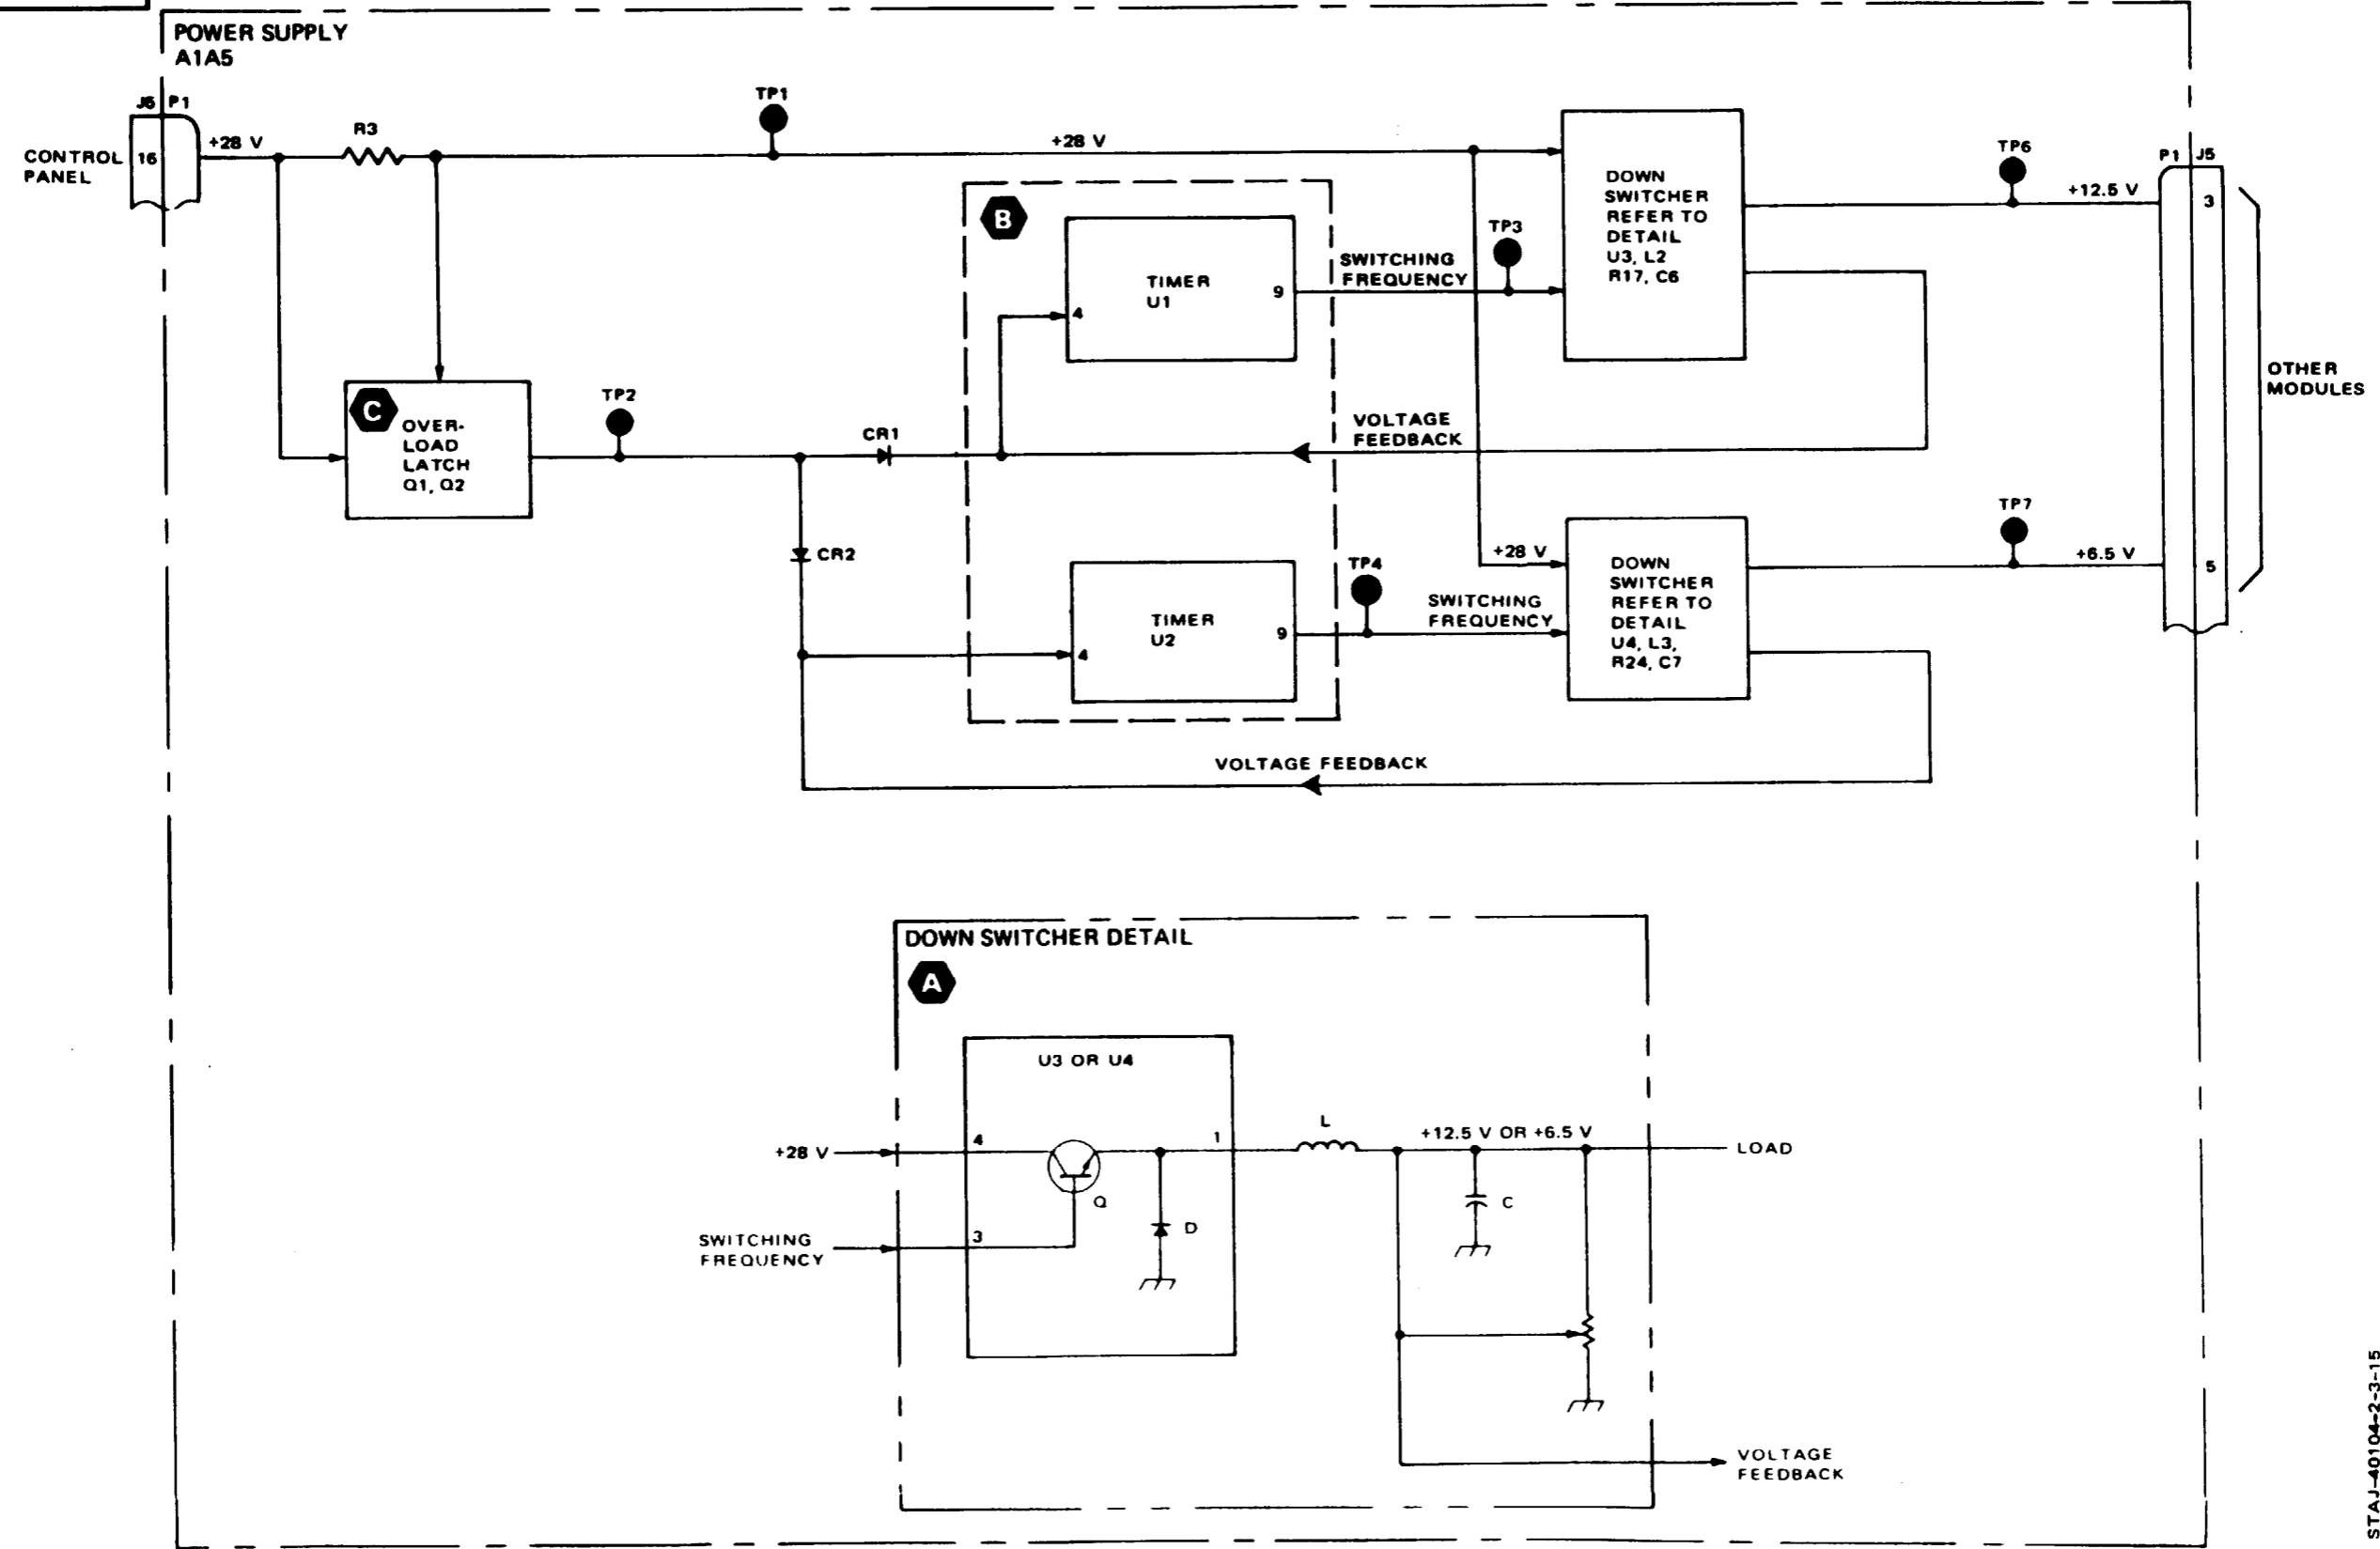

Figure 2-19. Power Supply
**POWER SUPPLY (1 of 2), fig 2-19**
**A DOWN SWITCHING** — The actual conversion from +28 V to +12.5 V or +6.5 V is performed by down switchers U3 and U4 shown in the detail on page 2-51. A transistor switch (Q) is driven on and off at a switching frequency of approximately 77 kHz. When the switch (Q) is closed, current flows through the inductor (L) and charges the capacitor (C). When the switch opens, the energy stored in the inductor (L) is transferred into the capacitor (C) via the diode (D). The voltage on the capacitor (C) is determined by the ratio of closed to open time of the switch (Q). The switch (Q) and diode (D) are integrated parts of switching regulators U3 or U4. The other elements are discrete.